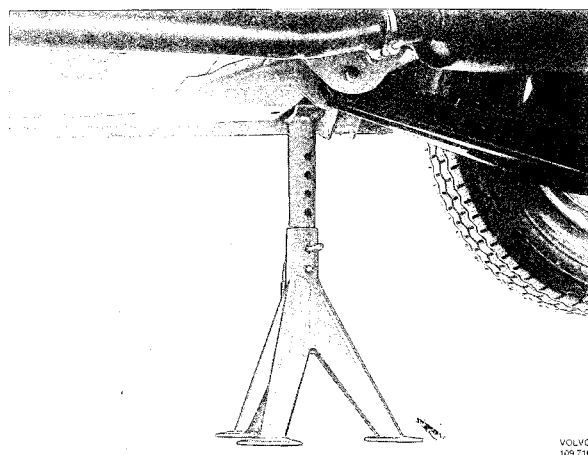

Fig. 7-4. Location of rear end stand
1. Place the rear end on stands. Position the stands in front of the rear jack supports and close to the rocker panels (Fig. 7-4).
1. Put the rear end on stands, with the stands located as shown in Fig. 7-4.
1. Put the rear end on stands with the stands located according to Fig. 7-4, and remove the wheel on the side the trailing arm is to be removed.